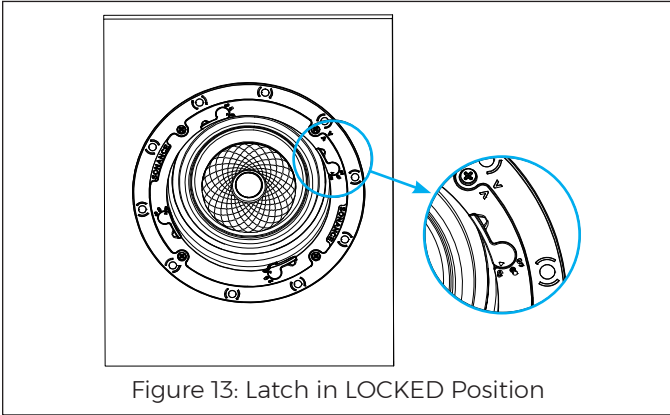

Figure 13: Latch in LOCKED Position
12. Use thumb pressure to rotate the VX speaker module Flex Frame latch into the LOCKED position (see Figure 13).